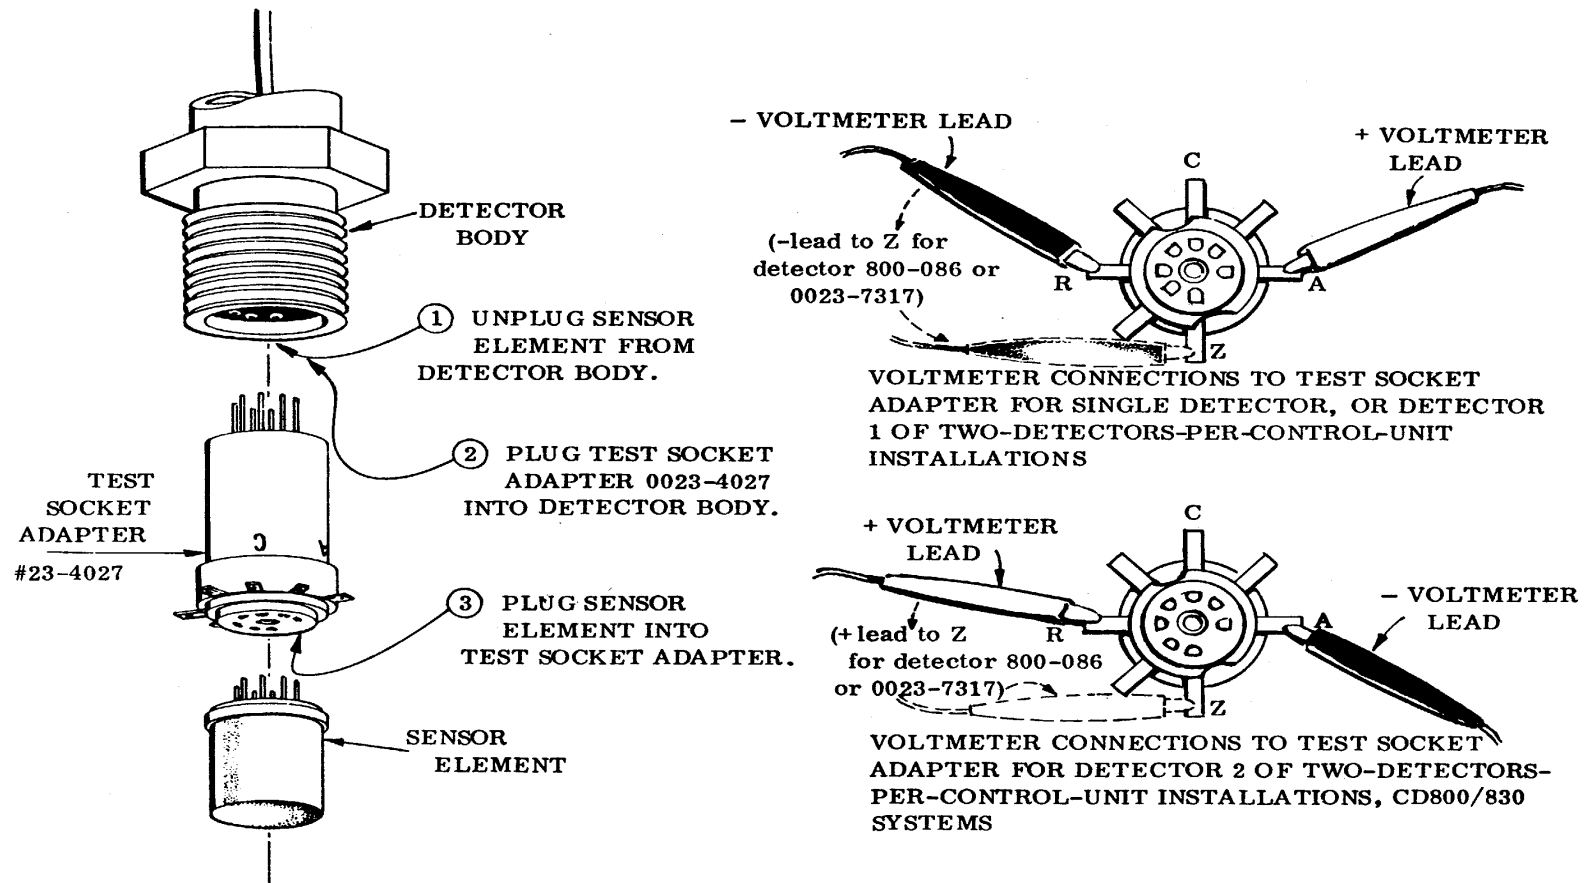

Figure 2-24. Use of Test Socket Adapter 0023-4027 to Determine Detector Operating Voltage
3. Remove sensor element from socket (all detector models) and plug in Test Socket Adapter #0034-4027. Plug sensor element into adapter socket (Figure 2-24). Turn on power.